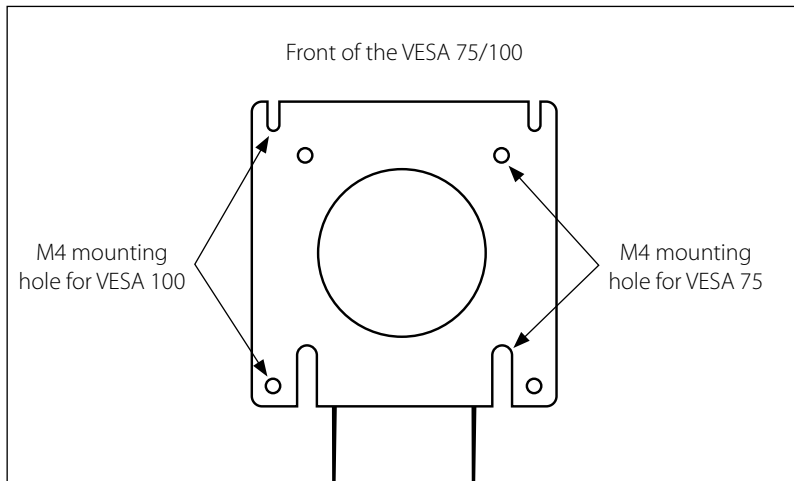

Figure 1
2. VESA 100 configuration: Partially thread two screws into the top 2 holes in the back of the LCD/Display. The LCD/Display can then be hung up on the VESA Head through the two slots at the top. Insert 2 more screws through the VESA 100 mounting holes at the bottom and tighten all screws (**Figure 1**).